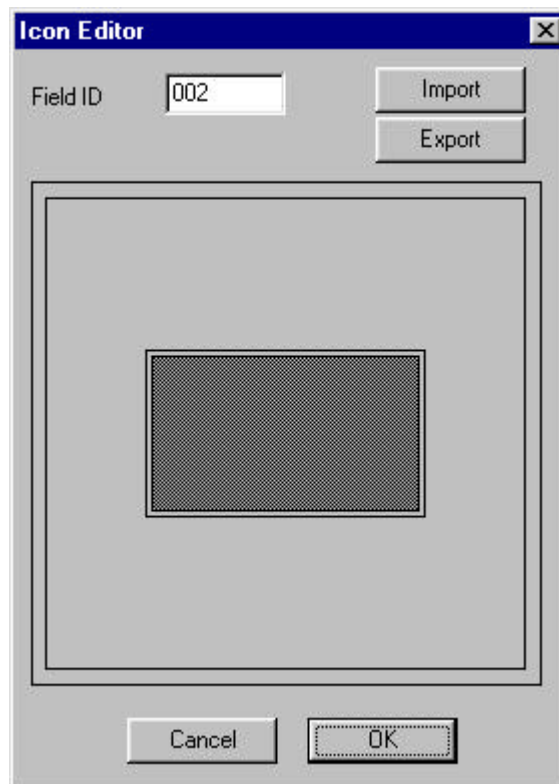

Figure 8.8 – Icon Editor
9. Click the **Add** button to display the Icon Editor (Fig 8.8).